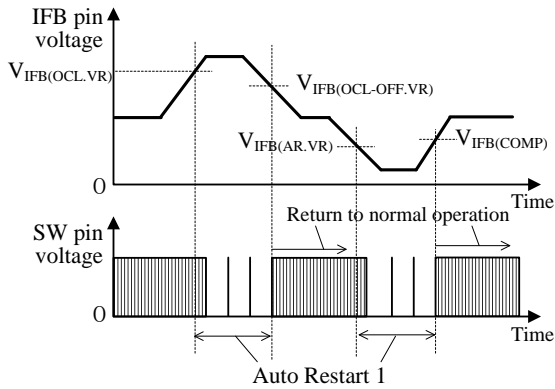
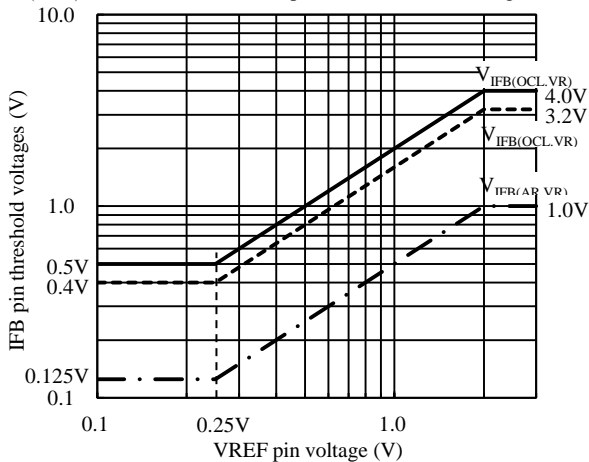

Figure 8-19 IIFB pin threshold voltage and Auto Restart 1 operation
Figure 8-20 VREF pin voltage versus IFB pin threshold voltages
As shown in Figure 8-19, IFB pin has two types of threshold voltage. These threshold voltages depend on the VREF pin voltage, as shown in Figure 8-20.
When the FB pin voltage increase to  $V_{IFB(OCL.VR)}$  in Figure 8-20, or more, the operation of the IC switches to Auto Restart 1. When the fault condition is removed and the IFB pin voltage decreases to  $V_{IFB(OCL-OFF.VR)}$  in Figure 8-20, or less, the IC returns to normal operation automatically.
When the FB pin voltage decrease to  $V_{IFB(AR.VR)}$  in Figure 8-20, or more, the operation of the IC switches to Auto Restart 1. When the fault condition is removed and the IFB pin voltage increases to above  $V_{IFB(OMP)}$ , the IC returns to normal operation automatically.
- (2) When IFB pin voltage becomes  $V_{IFB(OCL.VR)}$  or more (see Figure 8-20), the IC switches to Auto Restart 1.
- (3) The LED current increases further and when the IFB pin voltage increases to the IFB Pin Overcurrent Protection High Threshold Voltage,  $V_{IFB(OCH)} = 4.0$  V or more, the IC switches to Auto Restart 2.
When the LED\_OUT (+) or the IFB pin is open and the OVP pin voltage increases to the OVP Pin Overvoltage Protection Threshold Voltage,  $V_{OVP} = 3.00$  V, the IC immediately stops switching operation. When the OVP pin voltage decreases to the OVP Pin Overvoltage Protection Release Threshold Voltage,  $V_{OVP(OFF)} = 2.75$  V or the IFB pin voltage decreases to  $V_{IFB(AR.VR)}$  in Figure 8-20, then the IC switches to Auto Restart 1.
When the LED\_OUT (-) and the GND are shorted, and the IFB pin voltage decreases to  $V_{IFB(AR.VR)}$  in Figure 8-20, then the IC switches to Auto Restart 1.
When the output current detection resistor (R15, R61), is shorted, the IFB pin voltage decreases. When the IFB pin voltage decreases to  $V_{IFB(AR.VR)}$  in Figure 8-20, then the IC switches to Auto Restart 1.